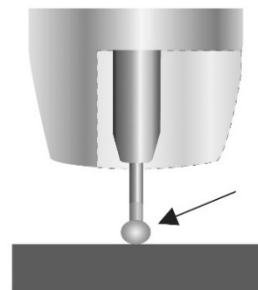

Fig. 29
2. The wire cannot support all the current flow, resistance builds up and the wire becomes hot and weak and begins to melt (Fig. 29)